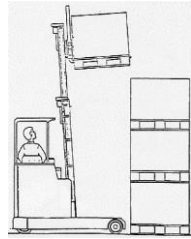

fig. 5
6. When the load is clear of the top of the stack, reach in. When necessary, move the reach truck slightly backwards away from the stack, ensuring that the way is clear and taking care not to dislodge loads in adjacent stacks. Re-apply the parking brake if the reach truck is moved. (See *fig. 5*)